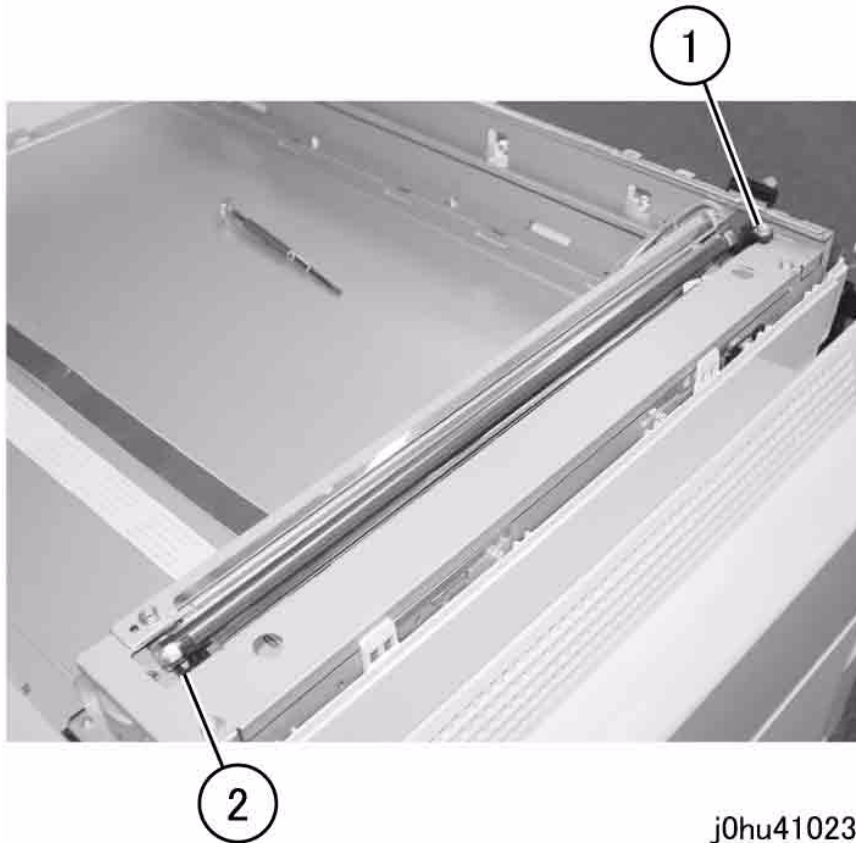

Figure 3 Remove Exposure Lamp
5. Remove the Exposure Lamp (Figure 3).